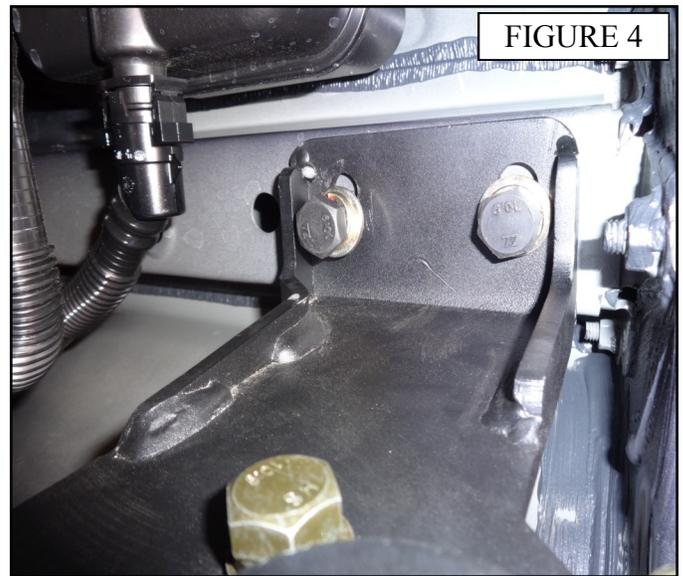

FIGURE 4
4. Attach the driver side mounting bracket to the two threaded hole previously used by the original tow loop. Use two M12 hex cap screws, two M12 split lock washers, and two M12 flat washers to fasten the bracket to the vehicle. Do not fully tighten at this time. Figure 4